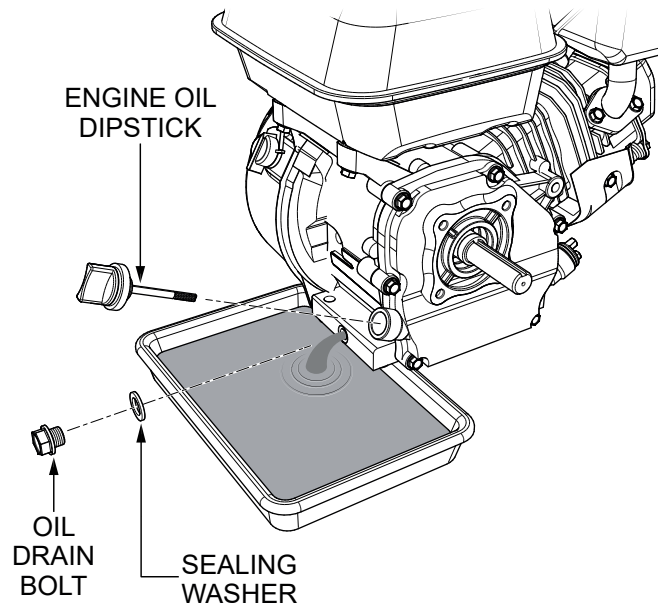

Figure 30. Draining The Engine Oil
1. Remove the **engine oil dipstick**, **oil drain bolt**, and **sealing washer** (Figure 30), and allow the oil to drain into a suitable container.